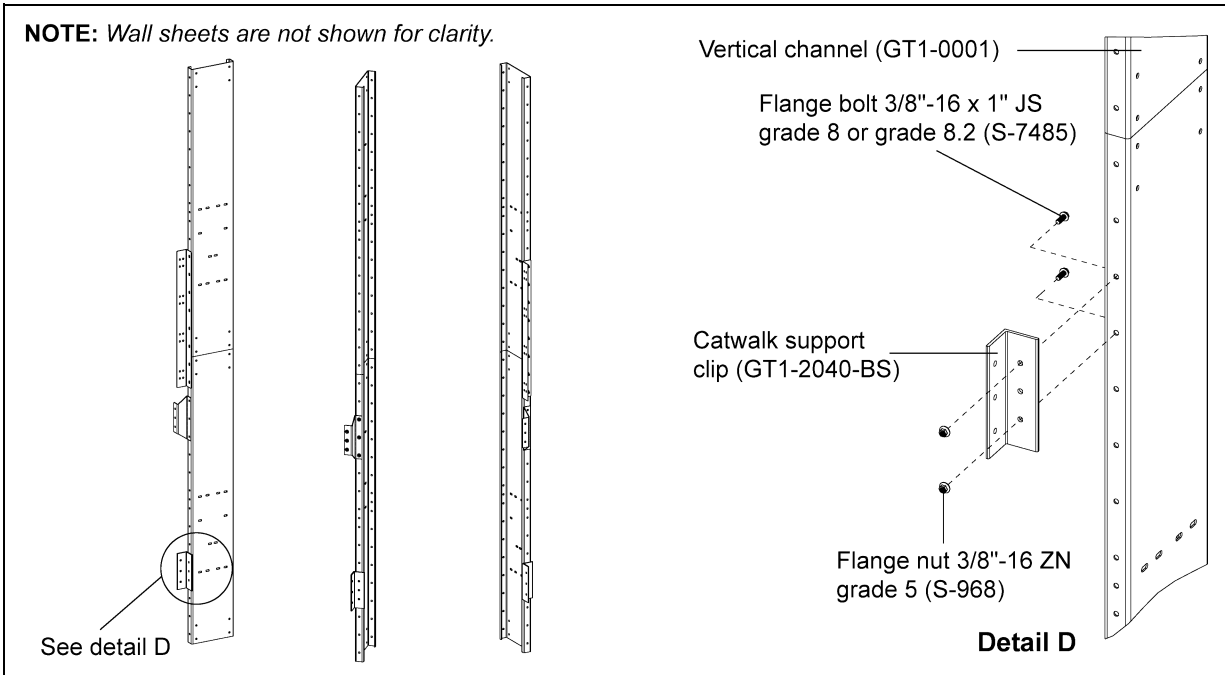
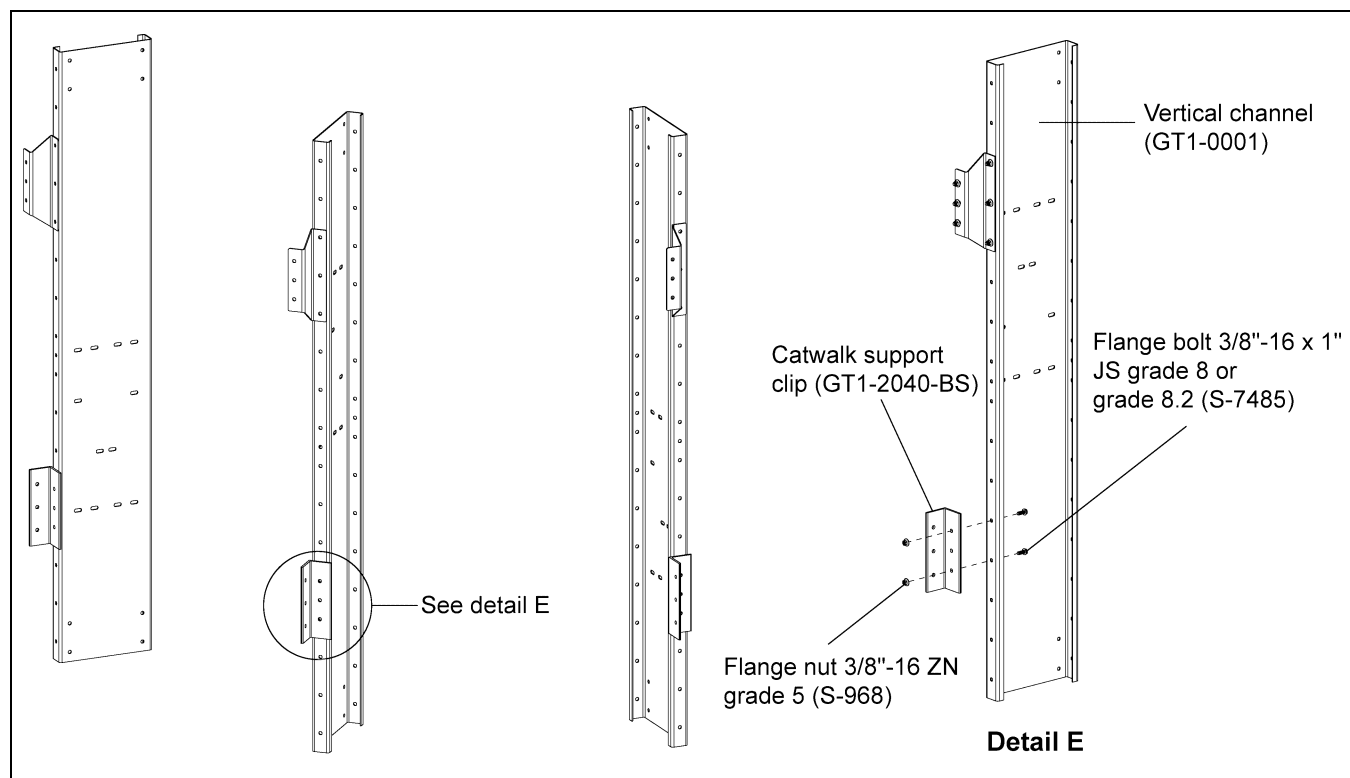

Figure 6G Offset Catwalk Support Clip Installation
Figure 6I Roof Hatch Catwalk Support Clip Installation
1. Install the catwalk support clips (GT1-2040-BS) to the vertical channel (GT1-0001). Support clip can be installed on each vertical channel as the wall sheets are installed using 3/8"-16 x 1" JS grade 8 or grade 8.2 bolts (S-7485) and 3/8"-16 ZN grade 5 nuts (S-968). *(See Figure 6G below and Figure 6I on Page 52.)*